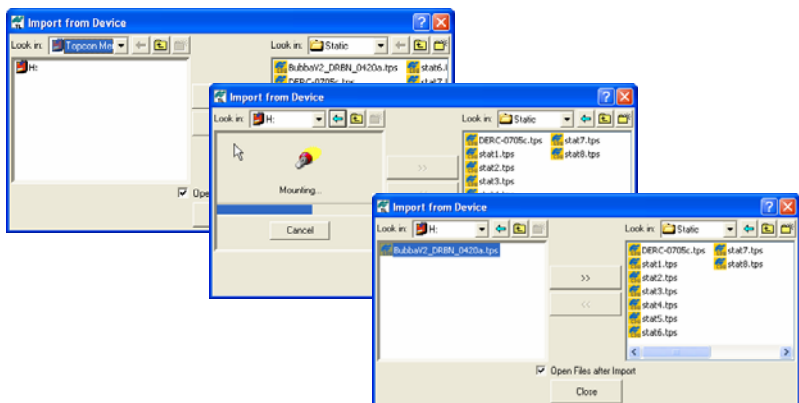

Figure 2-40. Import From Memory Card
2. Click **Memory Card** in the *Import from Device* dialog box. If the SD card was formatted in the receiver's file system, the disk, which designates the Topcon Memory Card, will be displayed in red (Figure 2-40).